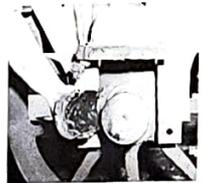

FIG. 11
- COMPLETELY COVER BEARING FACE WITH A THICK LAYER OF GREASE AND PLACE ON JOURNAL - FIG. 11 - DO NOT ATTEMPT TO GREASE PACK WHILST THERE IS SUFFICIENT HEAT TO MELT THE GREASE WHEN PLACED IN CONTACT WITH THE JOURNAL.